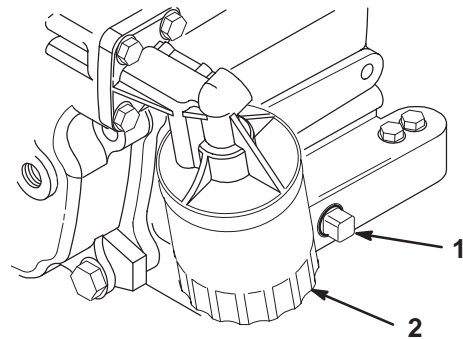

Figure 17
5. Remove the drain plug (Fig. 17) and let the oil flow into a drain pan. When the oil drains completely, install the drain plug.
2. Remove the existing oil filter (Fig. 17). Apply a light coat of clean oil to the new filter gasket.